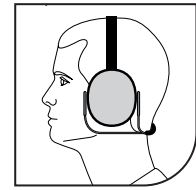

Fig 6
3. The head strap should be positioned across the top of your head and should support the weight of the headset. The head strap should be positioned across the top of your head and should support the weight of the headset (Fig 6).